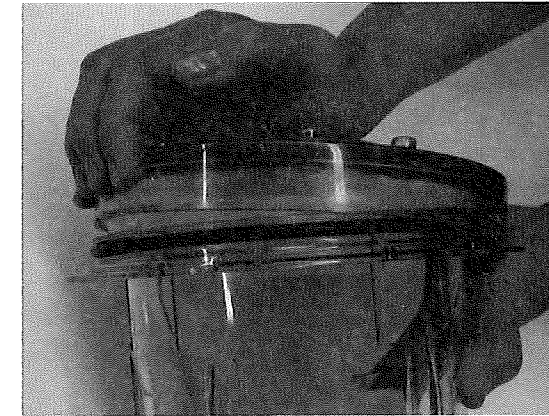
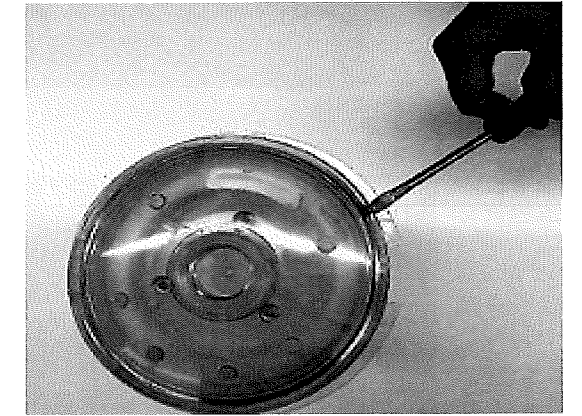

Figure 4
Figure 5
STEP 2: Remove lid from canister; see additional instructions on opening canister (figure 4 & 5); remove parts bag.
Opening the canister: The lid to the canister is a pull off type lid – it is NOT threaded; the lid sits on top of a slight lip on the canister; firmly hold the canister, placing the palm of your hand on top of the lid and your fingers over the edge of the lid, with pressure on your fingers pull up on the lid (see figure 4). Prying on the lid is not recommended, but with a screwdriver you can lightly lift on the lid at the indentation on either side of the lid clips (see figure 5). Once you have opened the canister lid the first time make sure to place a silicone based lubricant on the o-ring to ensure future efficiency for opening during maintenance.